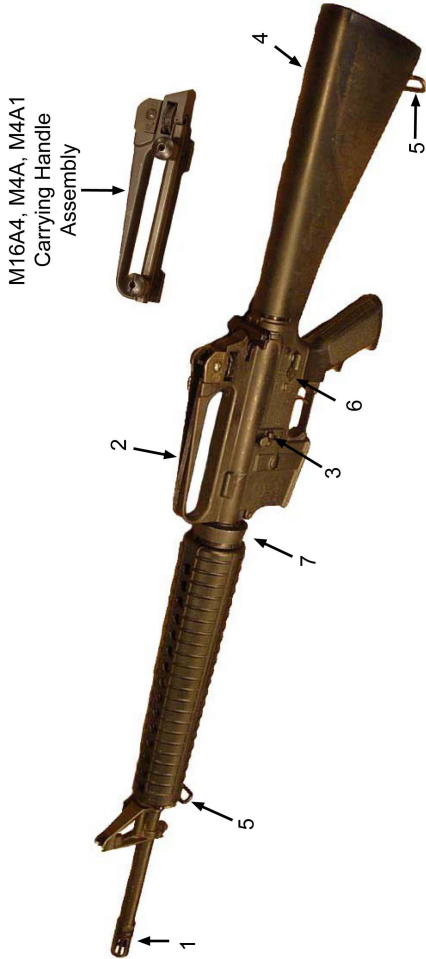

Figure 2-2. M16A2 - Left View
b. Left View. Refer to Figure 2-2.
- (1) Compensator. The compensator prevents the muzzle of the weapon from rising during firing.
- (2) Carrying Handle. The carrying handle allows the operator to carry the weapon.
- (3) Bolt Catch. The bolt catch holds the bolt assembly to the rear when the last round is fired.